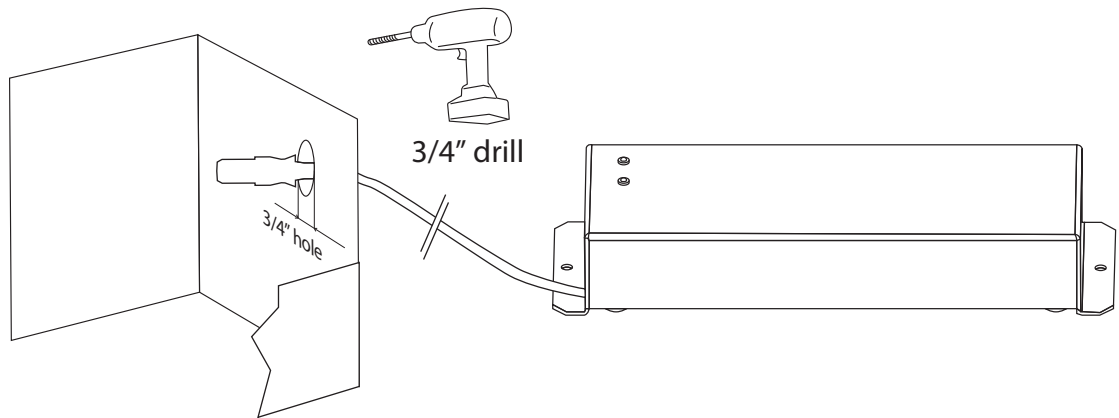

Figure 10
10) If required drill 3/4" access hole for female ballast socket through metal panel to access lamp installation location. (Figure 10)